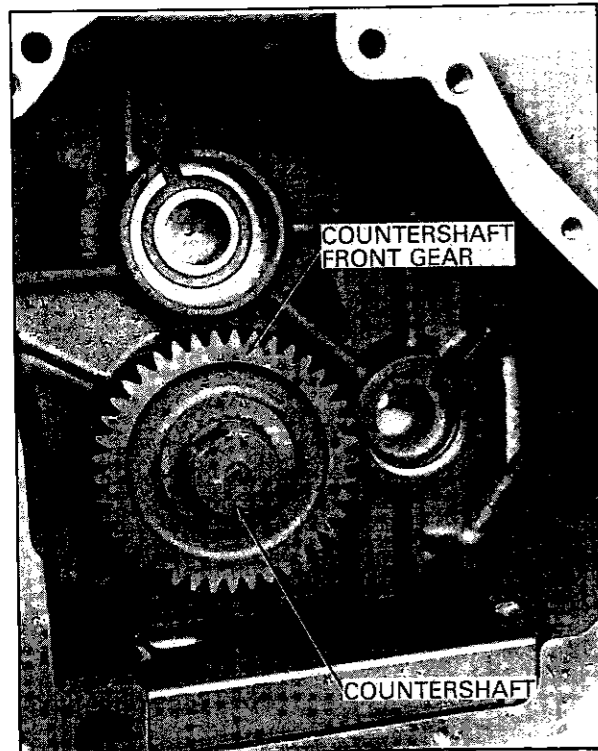

FIG. 35 COUNTERSHAFT FRONT GEAR INSTALLATION
35. Slip the splines of the front countershaft gear over the splines of the countershaft. The longer end of the gear hub of this gear should be assembled toward this bearing (Fig. 35).